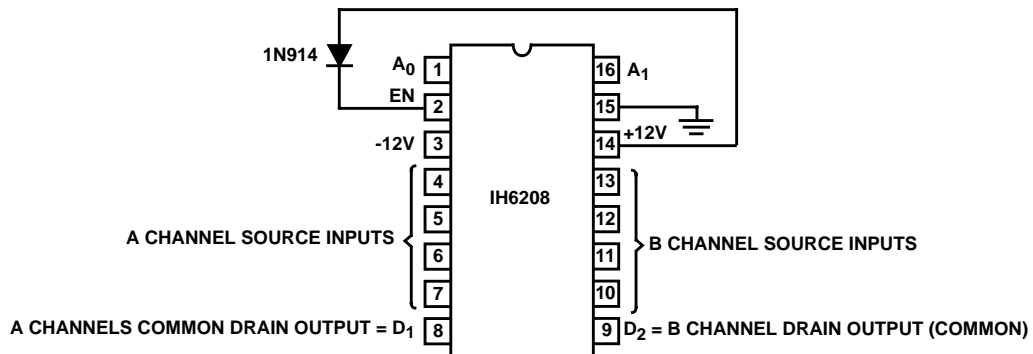

FIGURE 6. IH6208 CONNECTION DIAGRAM FOR LESS THAN $\pm 15V$ SUPPLY OPERATION
Caution must be taken to ensure that the enable (EN) voltage is at least 0.7V below V_+ at all times. If this is not done, the Address input strobing levels will not function properly. This may be achieved quite simply by connecting EN (pin 2) to V_+ (pin 14) via a silicon diode as shown in Figure 6. When using this type of configuration, a further requirement must be met: the strobe levels of A0 and A1 must be within 2.5V of the EN voltage in order to define a binary "1" state. For the case shown in Figure 6 the EN voltage is 11.3V which means that logic high at A0 and A1 is +8.8V (logic low continues to be 0.8V). In this configuration the IH6208 cannot be driven by TTL (+5V) or CMOS (+5V) logic. It can be driven by TTL open collector logic or CMOS logic with +12V supplies.